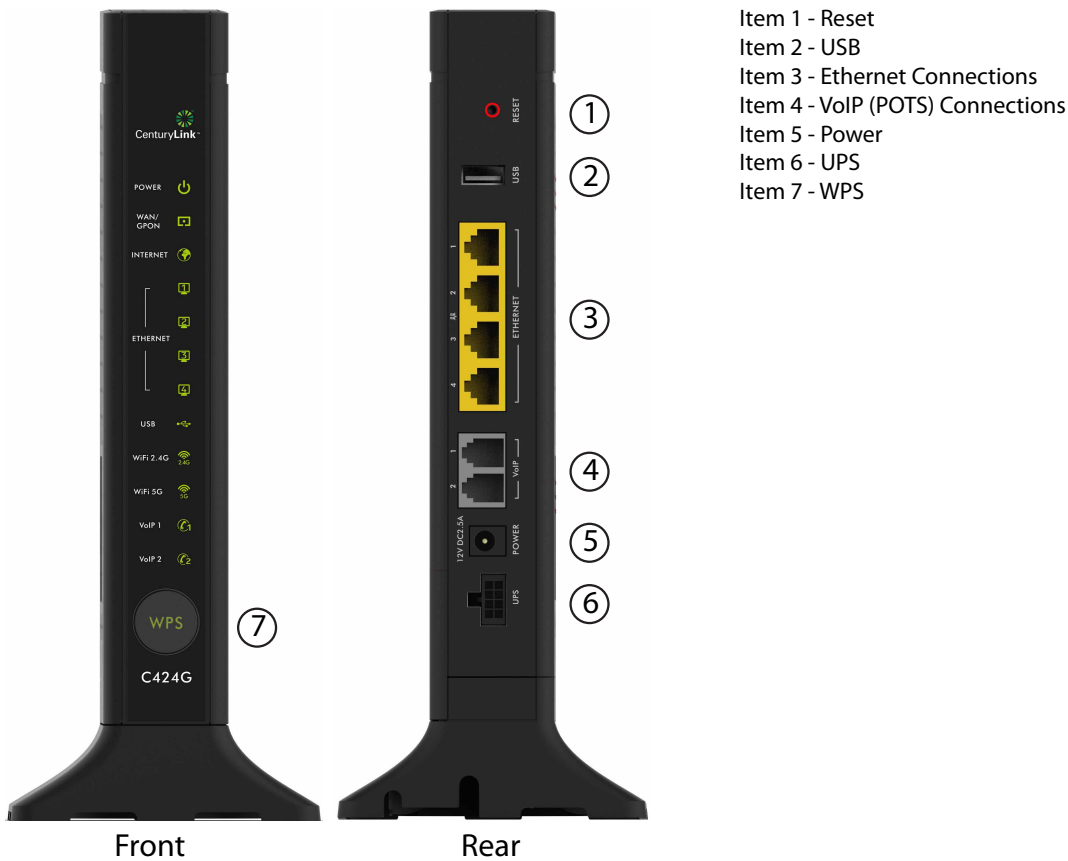

Figure 1. C424G ONU Front and Rear
Refer to Figure 1 and insert the RJ-11 connector in to one of the two VoIP ports.
3. Refer to Figure 1 and insert the CAT 6 rated cable in the appropriate Ethernet port.
Refer to Figure 1 and plug the 12 VDC Power Adapter (supplied with the unit) into the **12V DC2.5A** connection on the rear of the chassis. Connect the AC plug to a standard 120 VAC outlet.
To connect UPS, refer to Figure 1 and connect a UPS cable from the source to the UPS port on the rear of the unit.